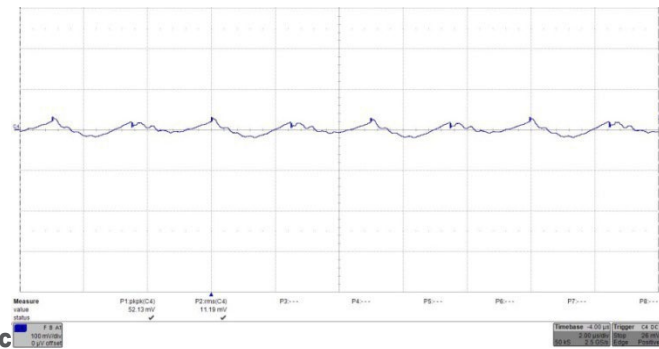

Figure 56: Output voltage ripple (100 mV/div.) at full rated load current into a resistive load at $V_{in} = 24V$. Time: 2 μs /div.
b) With input filter from Figure 56